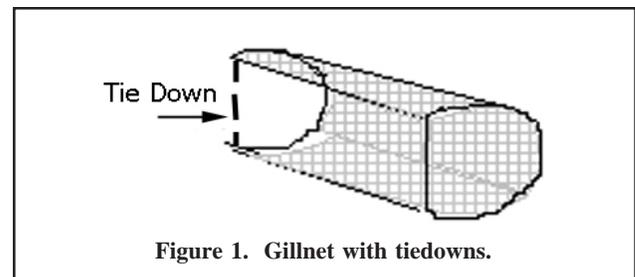

Figure 1. Gillnet with tiedowns.
15. USED?: Record whether tiedowns are used in this gear by placing an "X" next to the appropriate code (See Figure 1):
16. LENGTH: Record, to the nearest tenth of a foot, the average length of the tiedowns used in this gear. This information may be obtained from the Captain (See Figure 1).